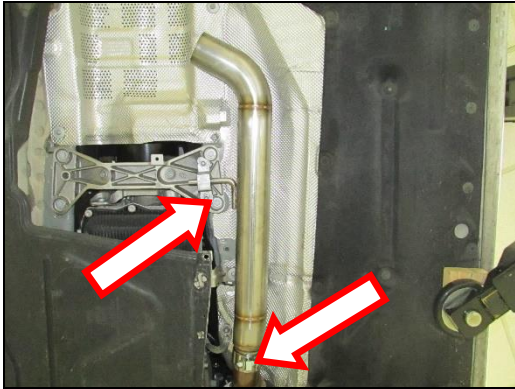

Figure 7
- Slide on the (x1) 2 ½" band clamp and connect the Blackheart pipe to the OE down pipe or Hooker Blackheart P/N BH8308. Tighten (x2) bolts on the hanger bracket (**Figure 7**).